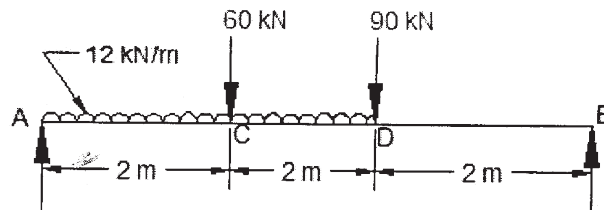

Fig. No. 2
- a) Draw SFD and BMD for a simply supported beam as shown in Fig. No. 2 Also find maximum shear force and bending moment Locate the point of zero shear.